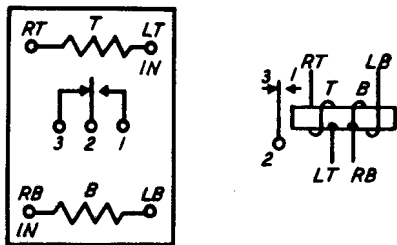

Fig. 36 – Winding and Spring Terminal Arrangement as Viewed From the Rear (terminal side) — 196-Type Relay
2.47 The contact terminals are numbered consecutively from right to left facing the terminal side of the relay. The front contact is numbered 1, the armature 2, and the back contact 3 except on relays having only a back contact, in which case the armature is numbered 1 and the back contact 2. The relative location of the winding and contact terminals as viewed from the terminal side, and typical designations are illustrated in Fig. 36. Facing the contact side of the relay, the L and R winding terminals are at the left and right sides of the spoolhead, respectively.